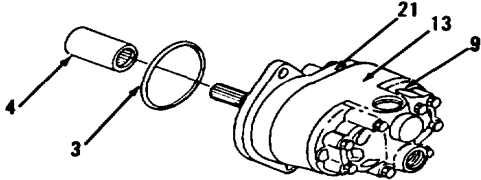

Figure 10-12.
- 2. Remove preformed packing (3) and coupling (4, Figure 10-12). Discard preformed packing (3).
- 3. Using scribe, matchmark back plate (9), body (13) and front plate (21) to aid in assembly.